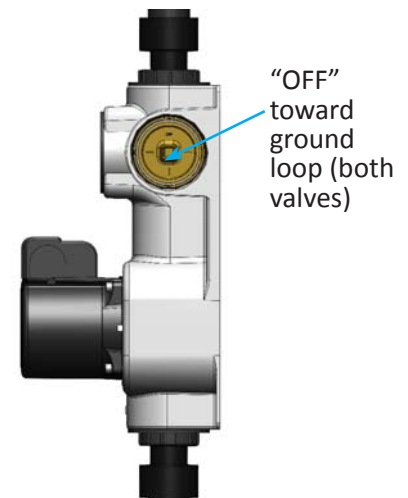

Figure 29: Flow-Link™ Double O-ring flow center valve positions for ground loop isolation
2. Rotate both valves to isolate the ground loop. (Figure 29).